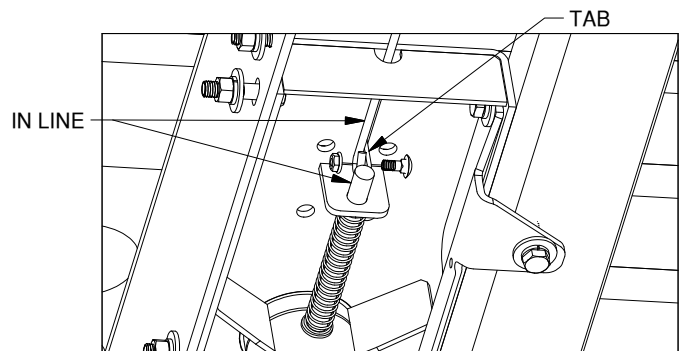

Figure F2: View under driver side of center under the latch pin. (Frame and some hitch components not shown.)
2. **Secure the handle.** From the driver side wheel well, install the latch pin release handle by inserting it between the bed and the frame. Pass the eye of the handle through the slot in the end of the center section. Align the handle eyelet with the square hole in the latch pin so the handle is in line with the latch pin. (On the cab side of the tab). Secure the handle to the pin with the 5/16" X 3/4" carriage bolt and 5/16" locking flange nut, as shown in Figure F2. Note: The included 5/16" cap screw can replace the carriage bolt if wrench access on the "cab side" of the handle is limited. Tighten the nut until it is secure. Do not over-tighten and deform the handle eyelet.